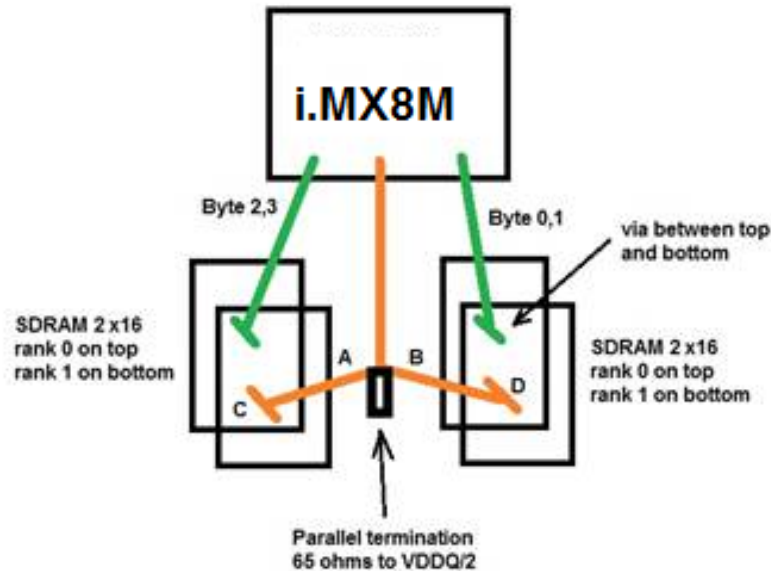

Figure 7. PCB routing topology for a 2-rank system
2. As illustrated in Figure 7, for data bytes, route straight from SOC to the SDRAM devices and via up and down with minimal stubs. For address/command signals, it is a T structure with branch to the SDRAM devices and via up and down with minimal stubs. And add a parallel termination (about 65Ω to $VDDQ/2$ or VTT) at the branch point of the T.